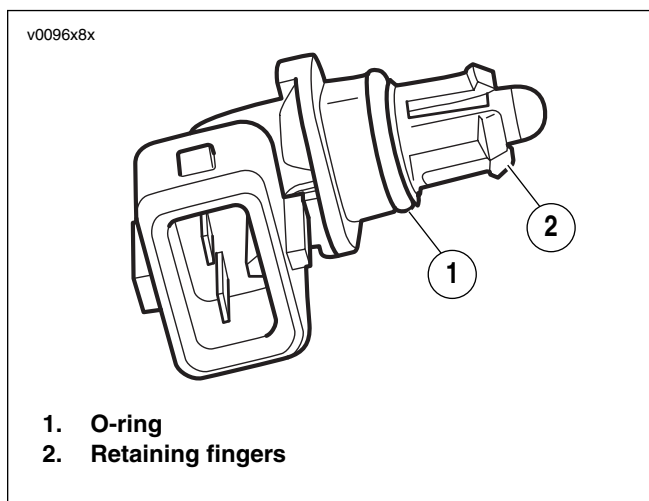

Figure 4-31. IAT Sensor
4. See Figure 4-31. Depress the retaining fingers (2) on the under side of IAT sensor and pull IAT sensor from upper airbox.
1. See Figure 4-31. Inspect IAT o-ring (1). Replace IAT sensor if o-ring is worn or damaged.